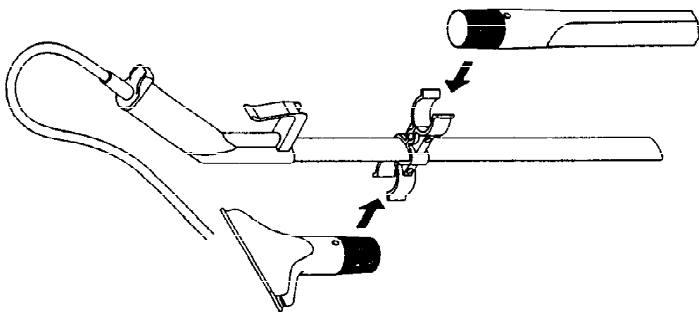

Figure 1
3. **Brush Adjustment (3) / Electronic Control (Figure 1)**
Tools should be installed as shown in Figure 1. The smaller lower section of the tools should be snapped into the retainers.